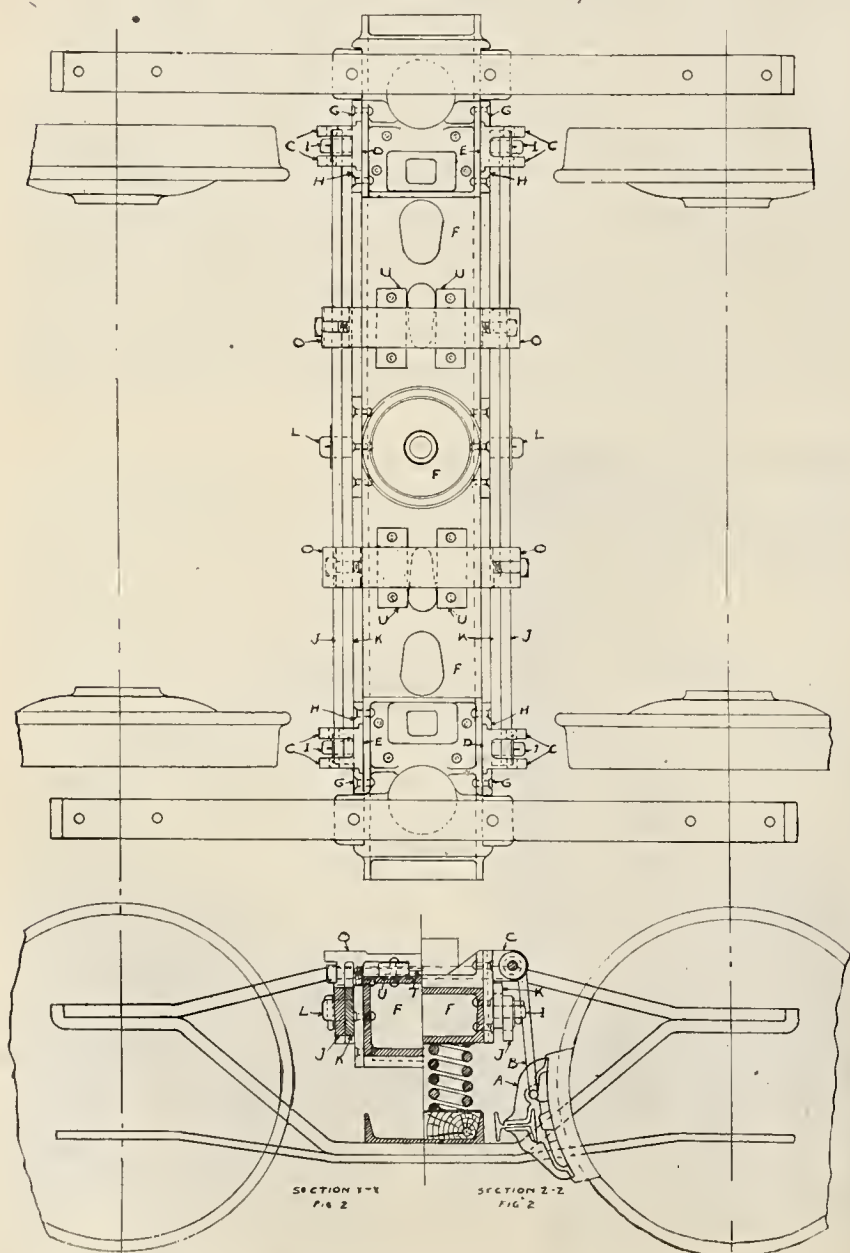

FIG. 1—DEVICE FOR REGULATING THE BRAKING POWER OF CARS.
figured much in excess of what would with the present device be safe. Any standard brake beam (A), figures 1 and 2, is suspended in the usual way by hangers B, which in turn are connected to lugs C on cross-heads D and E. Cross-heads D and E are held in position on truck bolster F by guides G and H, which in this case are riveted to bolster F, and which permit cross-heads D and E to move only in a vertical plane.
There is a set of levers (J and K) on each side of bolster F. (See Fig. 1.) To truck bolster F in this case, is riveted fulcrum L, which engages levers J and K on the longitudinal center line of the car. On levers J and K are lugs M and N respectively, to which shoes O are attached. Shoes O each pass over truck
bolster F and engage the lugs M and N on the levers on the other side of truck bolster F. (See Fig. 1.)
Shoes O have each a lug T (see Fig. 1) extending down on the longitudinal center line of truck bolster F. This center lug T engages two lugs U, in this